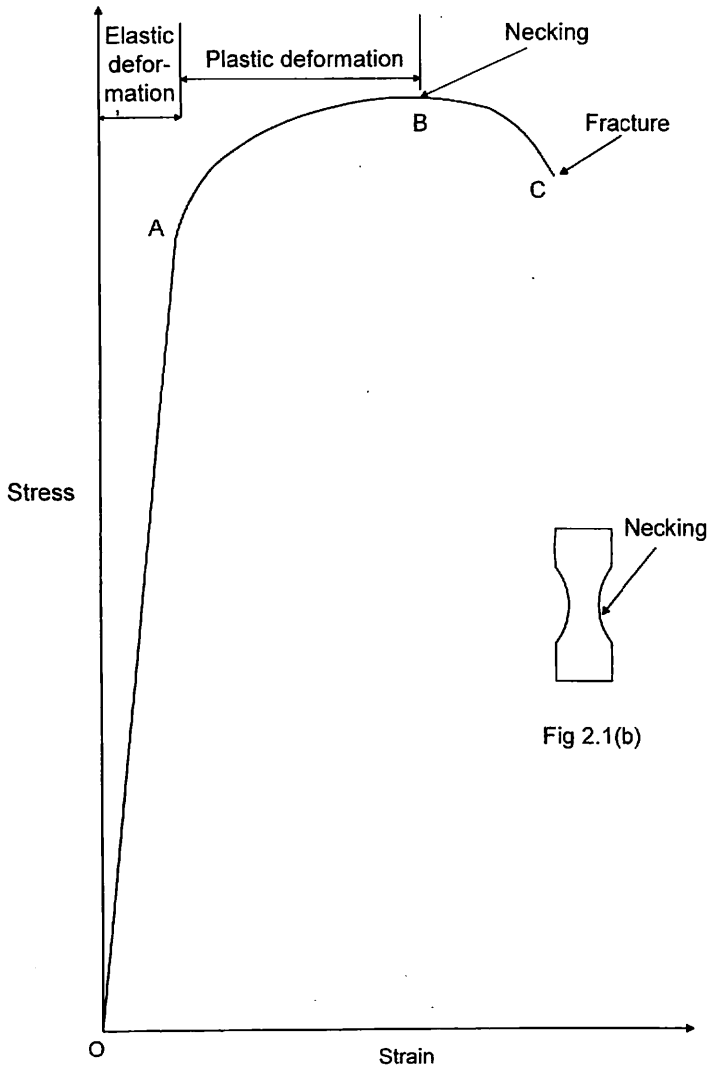

Fig 2.1 (a) Stress versus strain curve for a uniform metal specimen
If a *graph* between *stress* and *strain* is plotted (after the experiment has been completed), a curve similar to that in Fig. 2.1 is obtained. *In the region OA, the strain is proportional to the stress*. If the load is removed at this stage, the specimen will revert to its *original shape and size*. The behaviour of the material in this region is said to be *elastic*, and the change in shape it undergoes when loaded is called *elastic deformation*. The stress corresponding to the point A where the proportional region ends, is called the *yield strength*.
Beyond the point C, the cross-section of the specimen **decreases** only at its **weakest point**. This process is called **necking** (see Fig. 2.1 (b)), and the load that can be sustained decreases. Finally at point C **fracture occurs**. The stress at the maximum load (point B) is called the **ultimate tensile strength (UTS)** or the tensile strength (TS). The stress at point C is called the **breaking strength**.